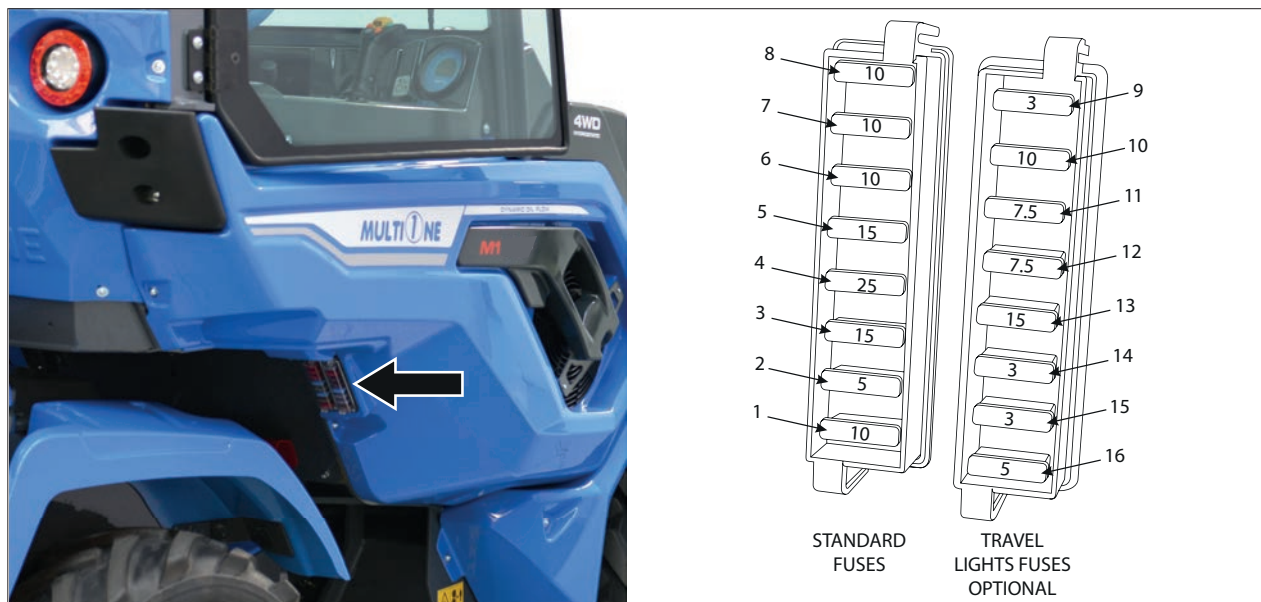

FIG. 47
- 1) Remove the cover located on the right side of the machine (see FIG. 47).